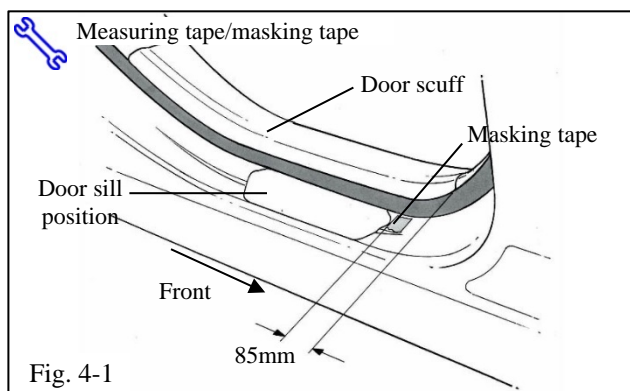

Fig. 4-1
- (b) Apply a piece of masking tape on the door sill – 85mm from front seam of door scuff (Fig. 4-1).
- (a) Once installation of both front and rear door sills are complete, remove the masking tape used to locate the parts (Fig. 2-1 & Fig. 4-1).